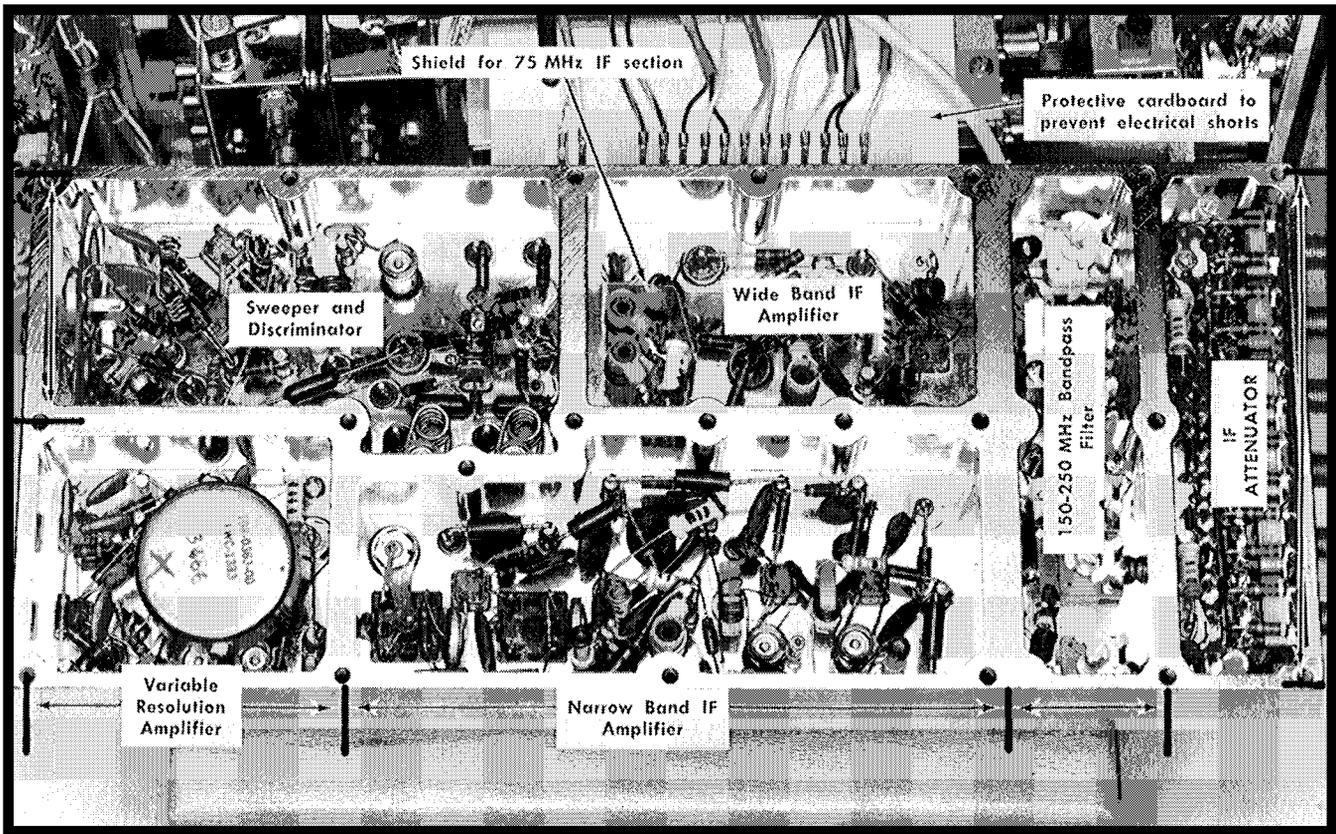

Fig. 4-11. Honeycomb assembly open and ready for voltage and waveform measurements.
3. Turn the Type 491 on its side (see Fig. 4-11). Remove the nylon rocker arm from the DISPERSION RANGE switch SW365.
5. Turn the honeycomb assembly over and place it upside down on a block or box as shown in Fig. 4-11. CAUTION—Do not bend or damage the pin connectors.
7. If power is to be applied, make certain all connections are correct to the square pin connector and the connectors are free of short circuit conditions. The DISPERSION RANGE switch must be manually switched on the honeycomb assembly when changing DISPERSION RANGE positions. Fig. 4-11 shows the circuit sections in each cell of the honeycomb assembly.